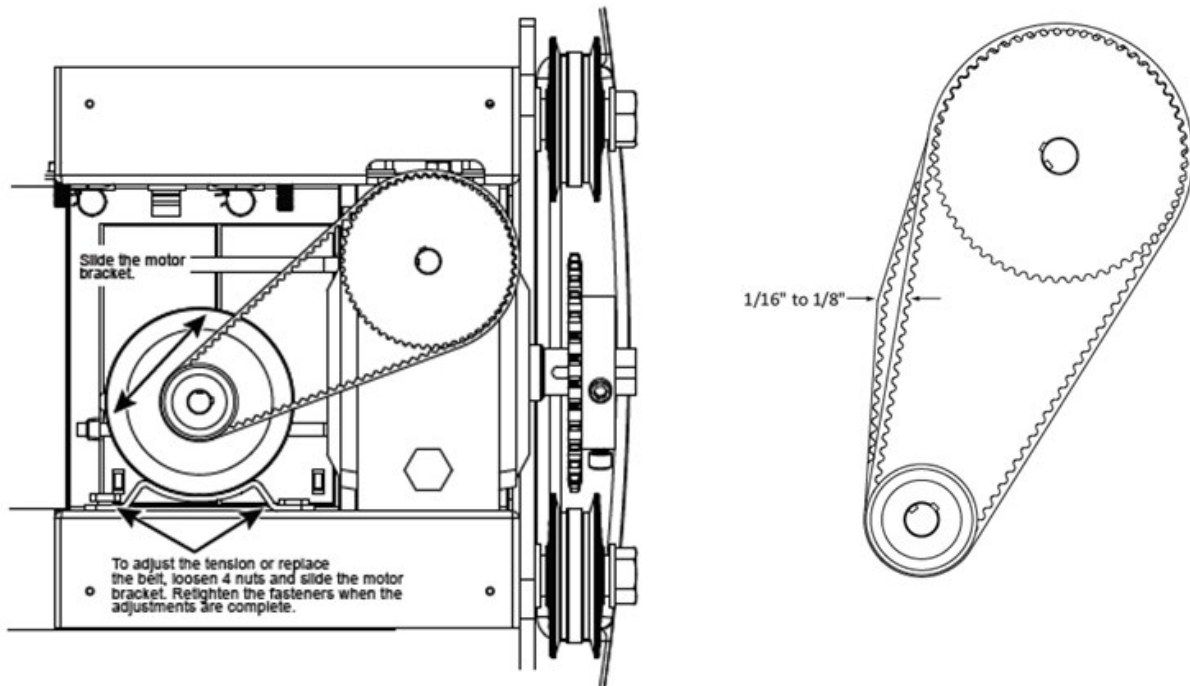

Figure 50. Drive Belt Tension and Alignment
4. With your finger, apply light outward pressure to the drive belt. If it is properly tensioned, it should only move about 1/16-inch to 1/8-inch (1.6 to 3.2mm). See *“Figure 50. Drive Belt Tension and Alignment”* on page 174.